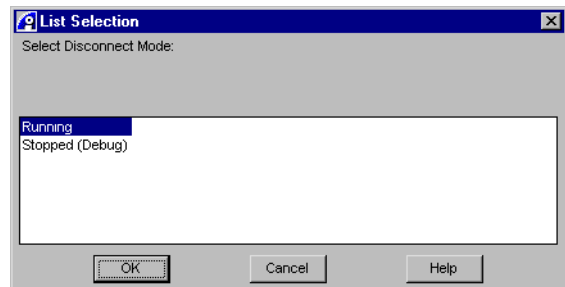

Figure 2-5 Disconnect Mode selection box
2. Select **Disconnect (Defining Mode)...** to display the Disconnect Mode list selection box shown in Figure 2-5.
The selection box, shown in Figure 2-5 on page 2-22, offers one or more state options to disconnect from your target. The options shown depend on the interface software that manages the target connection and so vary depending on the connection entry you select in the Connection Control window. In this example, the selection box contains an entry *As-is with Debug* (default). This is either the:
You can specify a user-defined disconnect mode to display a prompt to enable you to choose the disconnection mode for each connection. In this case, RealView Debugger displays the Disconnect Mode selection box shown in Figure 2-5 on page 2-22. However, where the prompt setting is defined, the state options offered are all supported by the target vehicle and so do not include a default option.